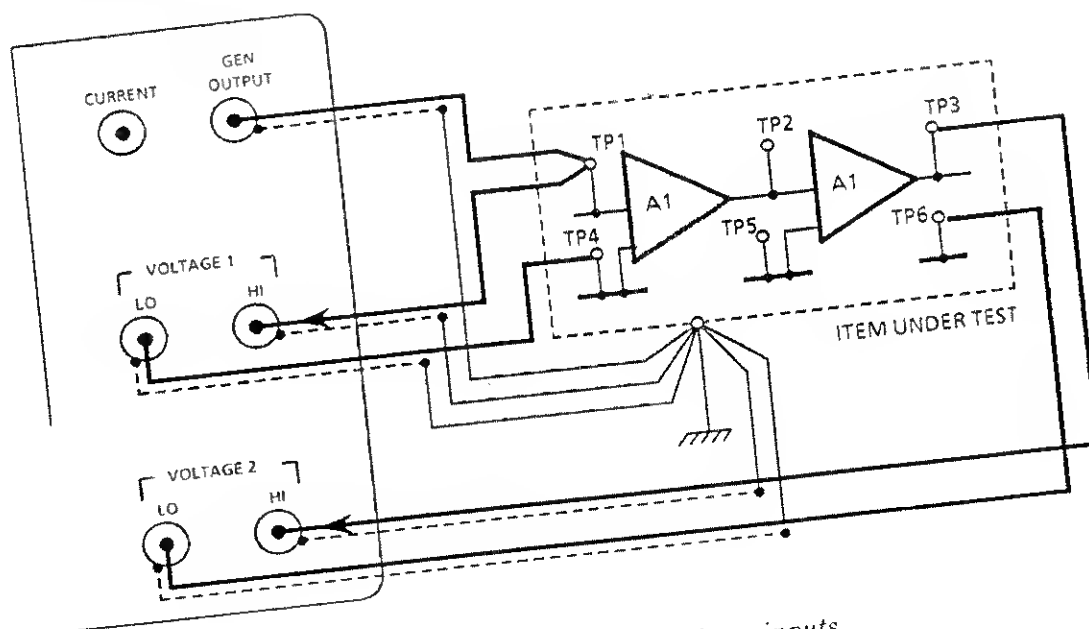

Fig 6.3 Typical use of differential voltage inputs.
- between a test point and signal ground, as in the example shown in Fig 6.3.